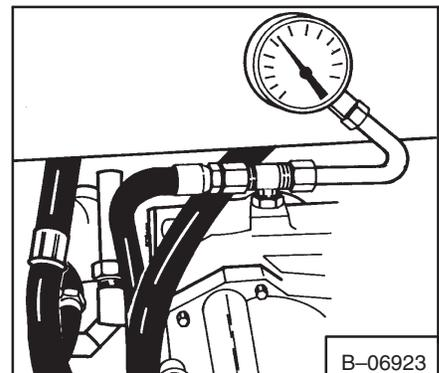

**Fig. 3-85** Removing Sender Switch
3. Remove the temperature switch from the port block (Fig. 3-85).